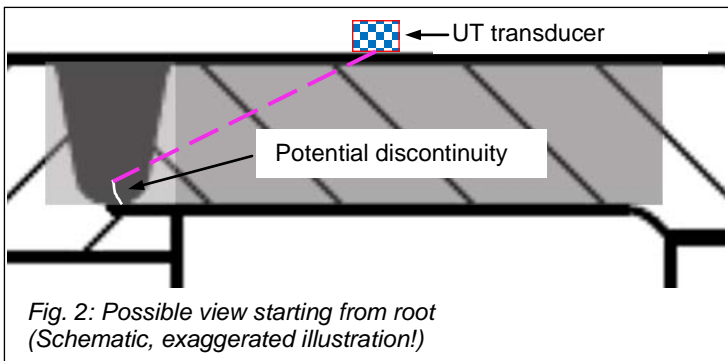

Fig. 2: Possible view starting from root (Schematic, exaggerated illustration!)
- For a schematic illustration of determining the discontinuity, see Fig. 2.